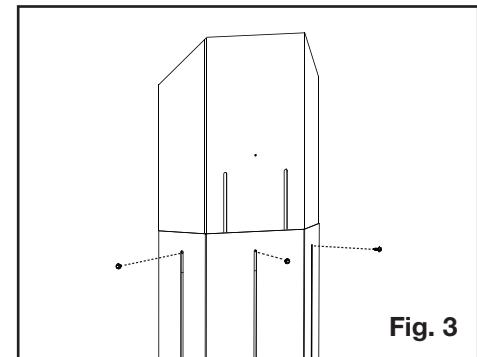

Fig. 3
3. Tighten the fasteners to lock the vent shield height (**Figure 3**).